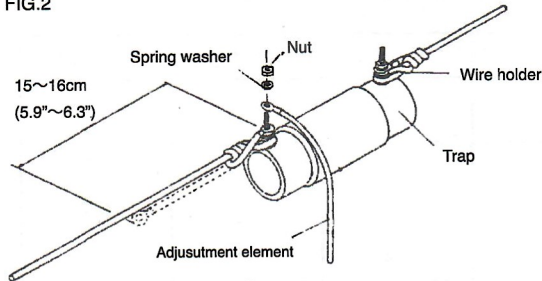

FIG.3
3. To install a insulator, put a element approximately 55cm(21.7") through the insulator and tie the element once as shown per Fig.3. Then bind the element with binding wire as shown per Fig.3.